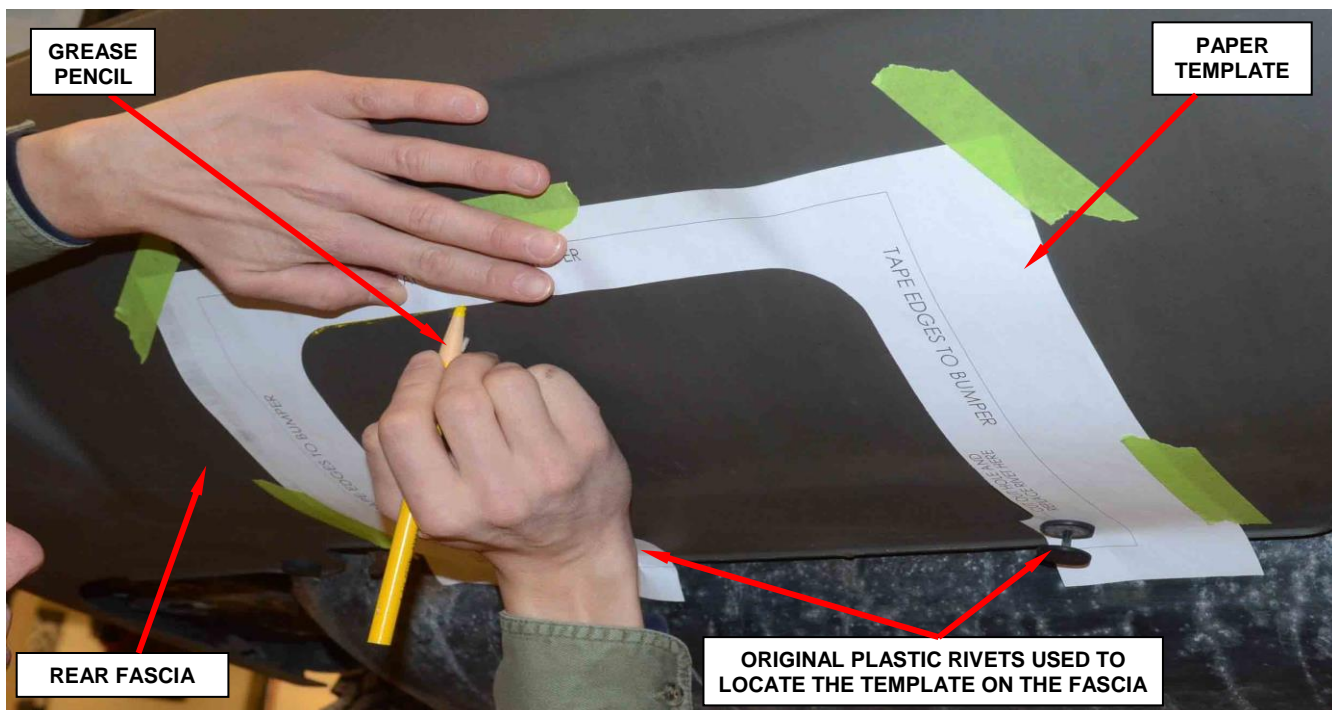

Figure 4 – Install Template and Mark Hole Location on Fascia
6. Install the paper template onto the fascia (Figure 4). Use original plastic rivets to locate the paper template on the fascia.
7. Trace the inside edge of the template onto the fascia (Figure 4).